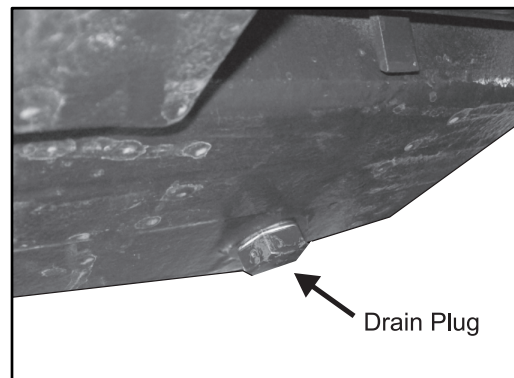

Fig.5-23
4. Remove the plugs (Fig. 5-23) and drain out the oil.